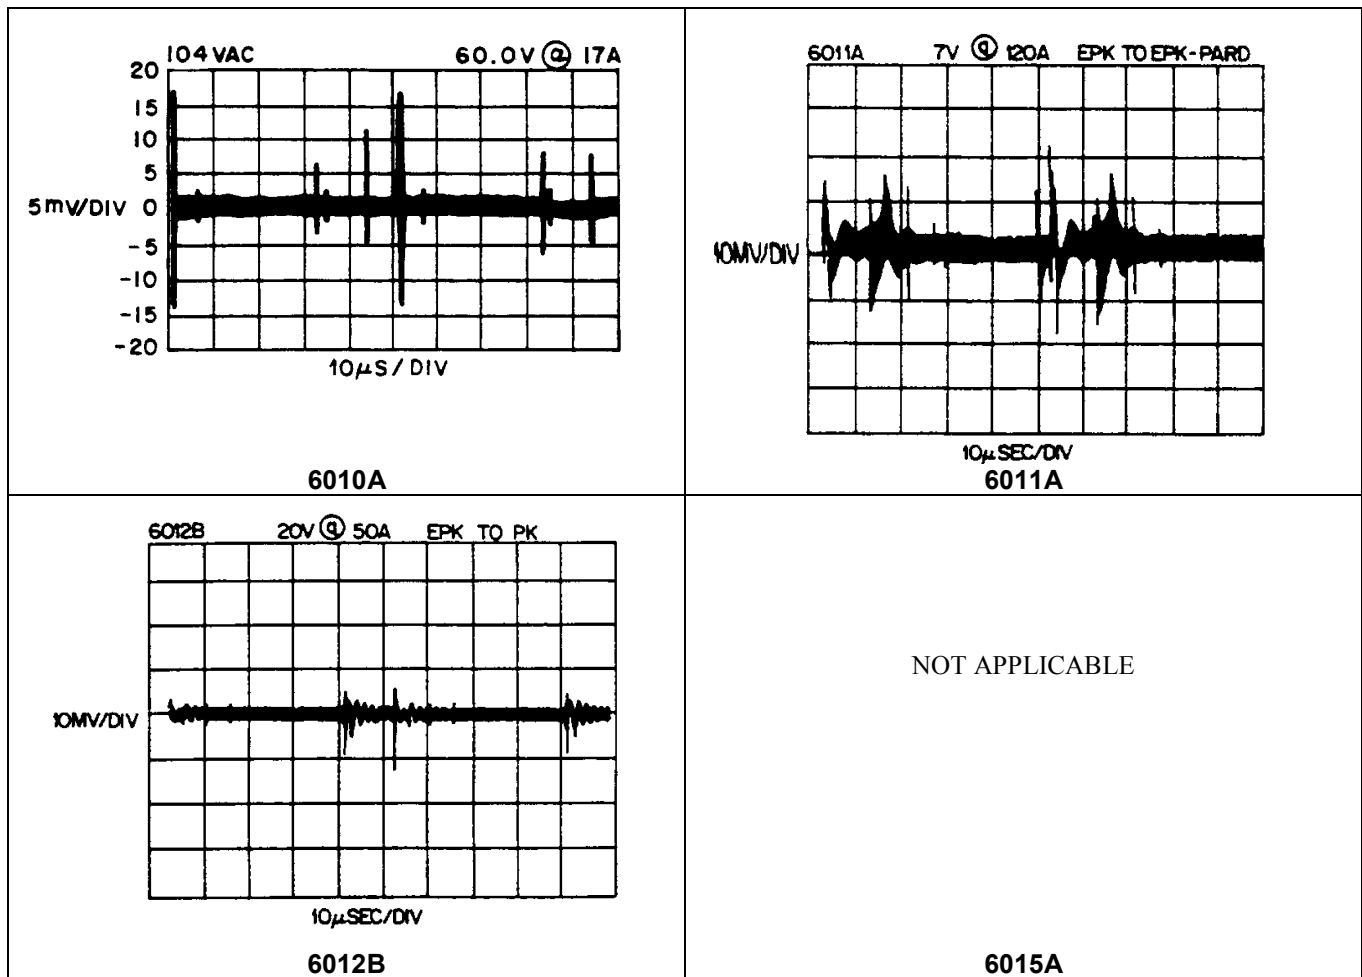

**Figure 2-5. Peak-To-Peak Measurement Test Setup, CV PARD Test**
**Peak Measurement Procedure.** Figure 2-5 shows the interconnections of equipment to measure PARD in Vpp. The equipment grounding and power connection instructions of PARD rms test apply to this setup also. Connect the oscilloscope to the + OUT and - OUT terminals through 0.01μF blocking capacitors to protect the oscilloscope's input from the unit's output voltage. To reduce common-mode noise pickup, set up the oscilloscope for a differential, two-channel voltage measurement. To reduce normal-mode noise pickup, use twisted, 1 meter or shorter, 50Ω coaxial cables with shields connected to the oscilloscope case and to each other at the other ends. Proceed as follows:
- a. Connect the test equipment as shown in Figure 2-5. Operate the load in constant resistance mode (Amps/Volt) and set resistance to maximum.